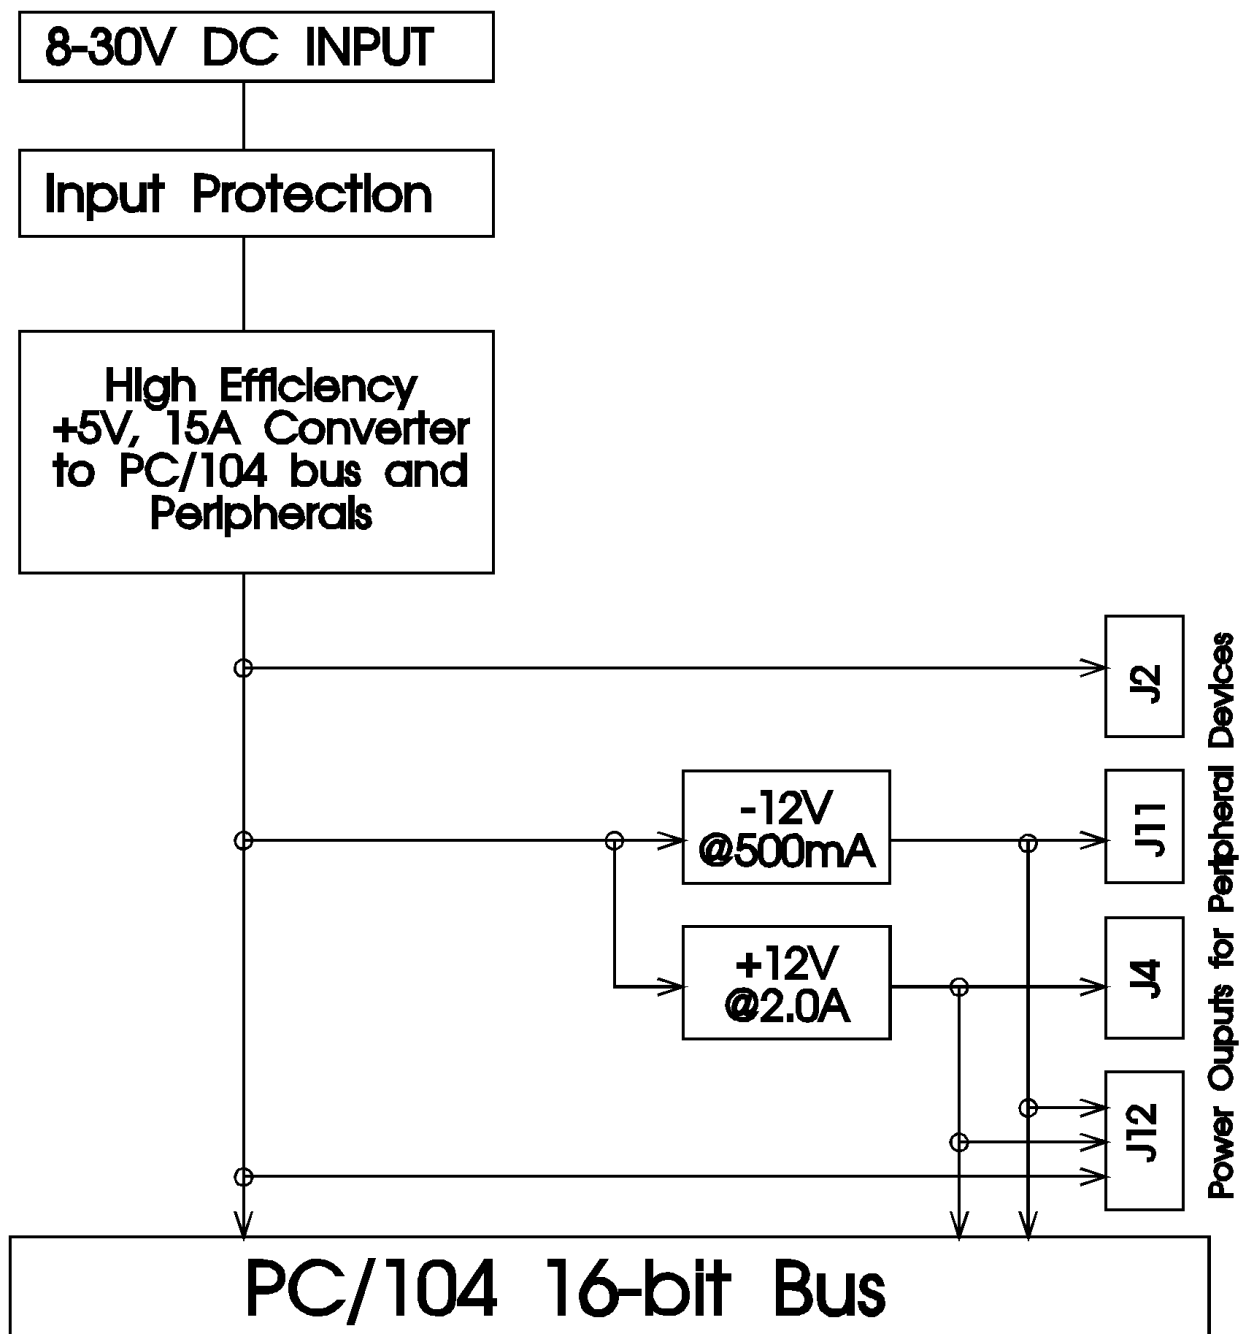

Fig. 3-1 Block diagram of the HPWR104HR-2
- Fig. 3-1: HPWR104HR Block diagram